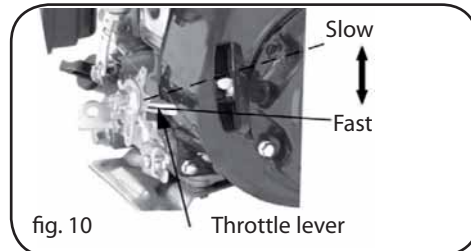

fig. 10
1. Push up the throttle lever to the SLOW position (Fig. 10).